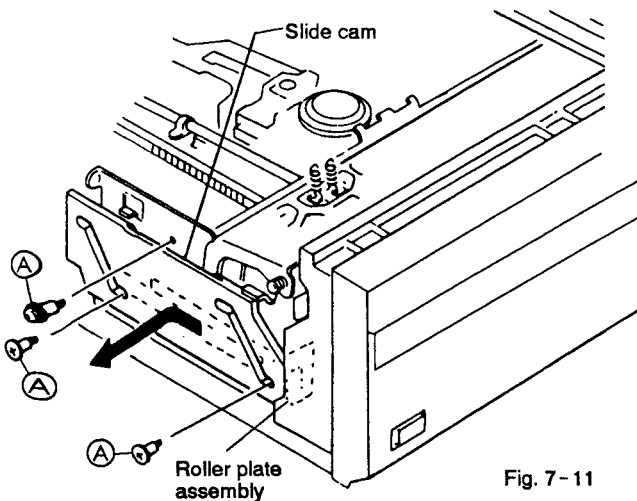

Fig. 7-11
7.9 REMOVING THE SLIDE CAM AND ROLLER PLATE ASSEMBLY (Fig. 7-11)
- ① Set the player with the tray down.
- ② Remove three screws (A) and slide the slide cam toward the rear to remove it.
- ③ Remove the clamber arm (A) assembly (see page 61) after removing slide cam to remove the roller plate assembly.